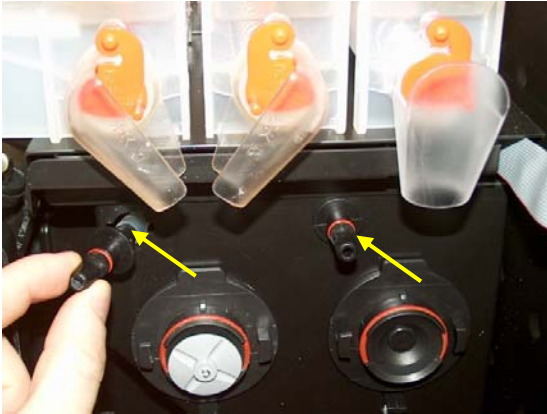

Fig. 8
5. Disconnect the two pipes from the rear of the outlets at the front of the machine (Fig. 8). The outlet sockets can be removed by turning a quarter of a turn.